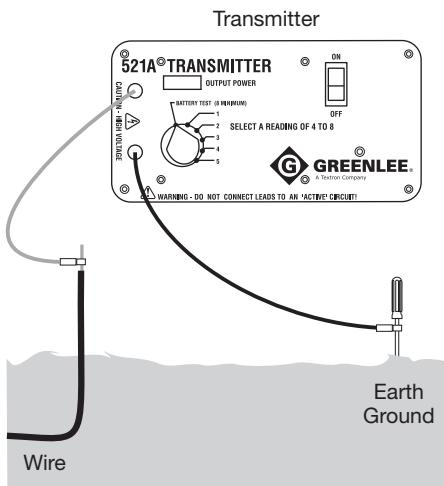

Figure 1 – Transmitter Setup
- With the transmitter off, connect the red lead to the wire to be located and the black lead to a good earth ground with the stake provided. (Refer to Figure 1.) If the clock is indoors, the earth ground stake MUST be grounded at the point where the wires exit the building. It might require running a length of wire to the outside. Do not use a common ground inside (i.e., electrical or water pipe).